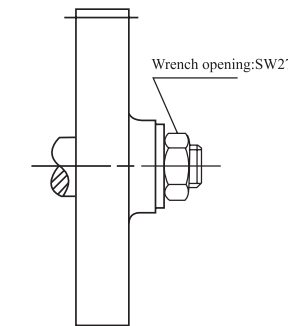

Fig9
3.12 Bolt for dtive gear of injection pump (fig.9): (M18×1.5)